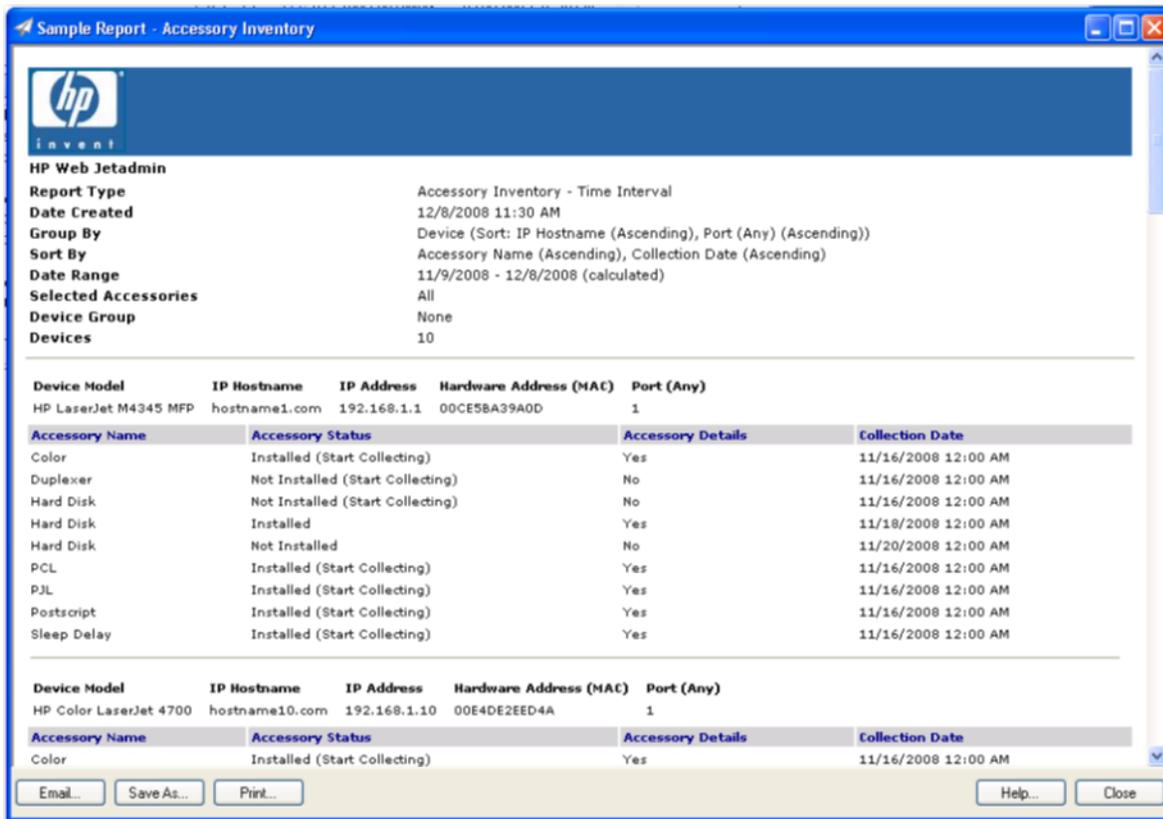

Figure 22: Accessory Inventory report
- Under **Report Data**, select the specific data relating to accessories that appears as columns in the report (Figure 22). This data includes: